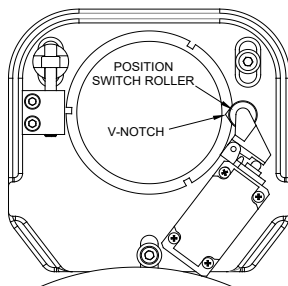

Figure 3
8. If necessary, loosen the interlock ring set screws and rotate the ring so that the V-notch aligns with the position switch roller when the assembly is in the treat position (**Figure 3**). Retighten the set screws.